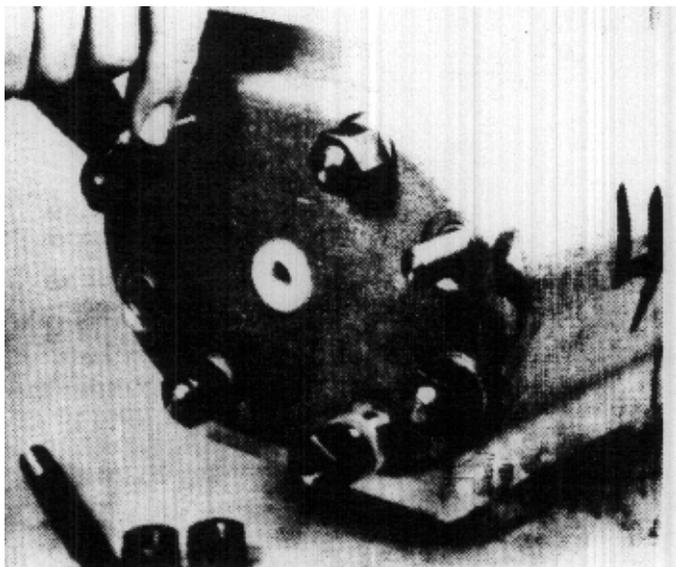

FIGURE 102
41. Lay the partially assembled unit on its side and install studs (43), washers (22) and nuts (21). You can wait until the motor is completely assembled before applying final torque to these studs. (Fig. 102)